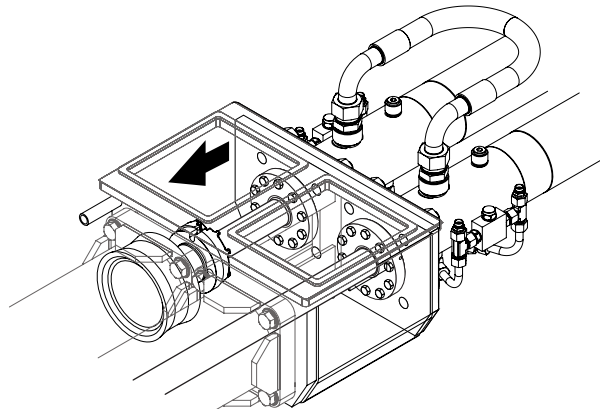

Figure 25
4. Restart the engine, and clear all E-stop requests. Press the concrete pump forward or reverse button and ram change mode button simultaneously. Slowly extend the cylinder until the ram is installed in the material cylinder but the mounting flange is still exposed enough to remove the nut and bolt (Figure 25). When in position, release the concrete pump forward or reverse button or ram change button to stop the differential cylinders. Shut off the engine. Remove the nut and bolt.